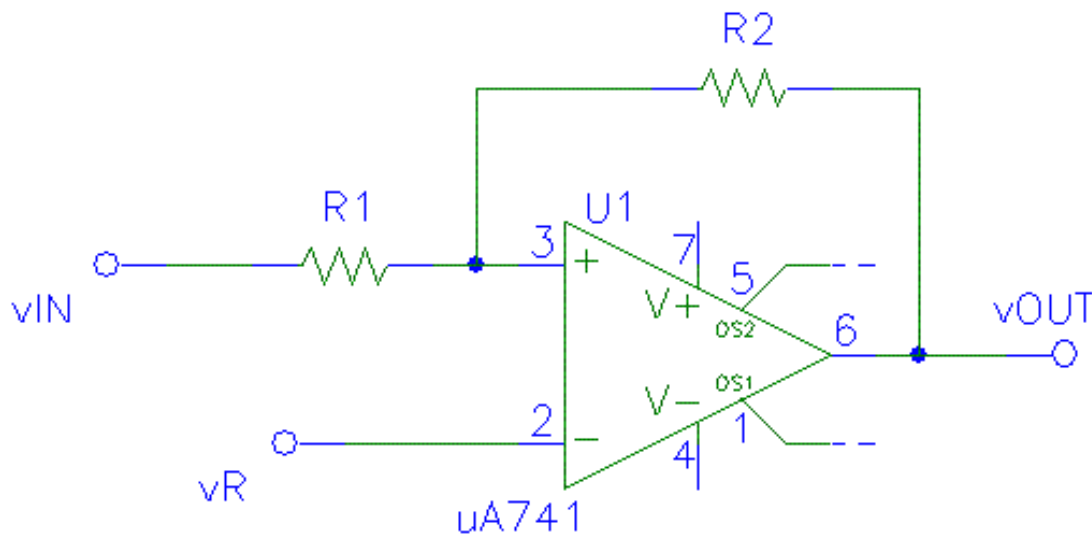

Figure 1 - Comparator Circuit
a. For the comparator circuit shown in figure 1,
(1) Find expressions for the threshold voltages  $V_{T1}$  and  $V_{T2}$  in terms of  $R_1$ ,  $R_2$  and op amp limited voltage (of magnitude  $V_O$ ). Explain your calculations.
(2) Plot the transfer characteristic and display the direction of switching levels.
(3) If  $V_R = 0$ ,  $V_{T2} = -V_{T1}$  and an input sinusoid of frequency,  $f = 1/T$ , is applied to such a comparator, the output will be symmetrical square wave, of half period  $T/2$ . The vertical edge of the output waveform will not occur at the time the sine wave passes through zero, but will be shifted in phase by  $\phi$ , where  $\sin \phi = V_{T2} / V_m$  and  $V_m$  is the peak sinusoidal voltage. Plot this statement by drawing clearly the output lined up in time with the input, showing delay time if a 4V peak sinusoid is applied and  $R_2 = 5R_1$ . Assume the peak output is 14V.